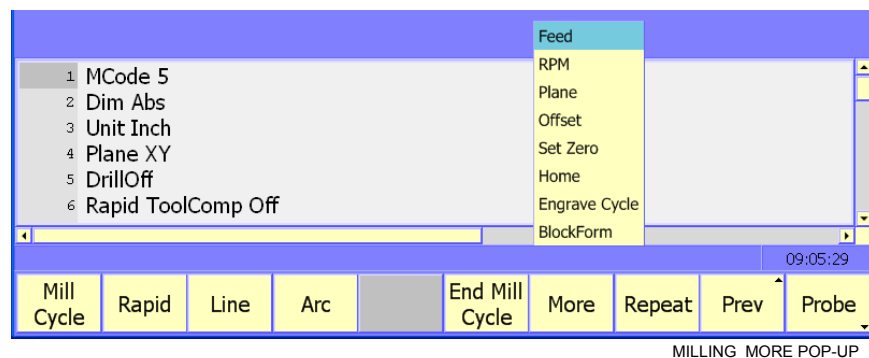
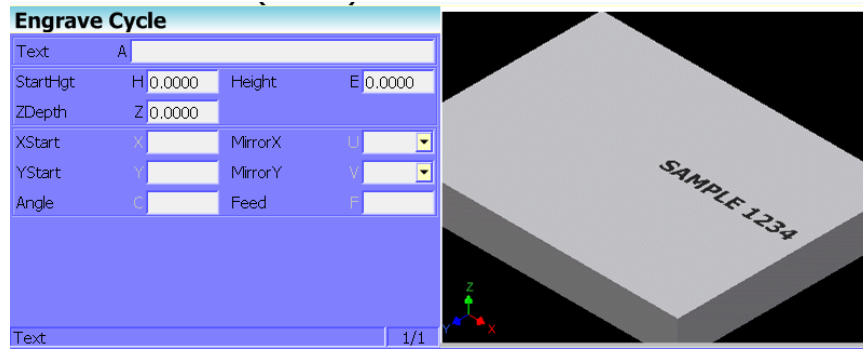

Figure 4-25, Milling (F5)>More (F7) Pop-up Menu
Figure 4-26, Engrave Cycle Graphic Menu
1. In Edit mode, press **Milling (F5)** and **More (F7)** to display the More pop-up menu, **Figure 4-25**. Highlight **Engrave** and press **ENTER** to display the Engraving Cycle screen, Figure 4-26, Engrave Cycle Graphic Menu.